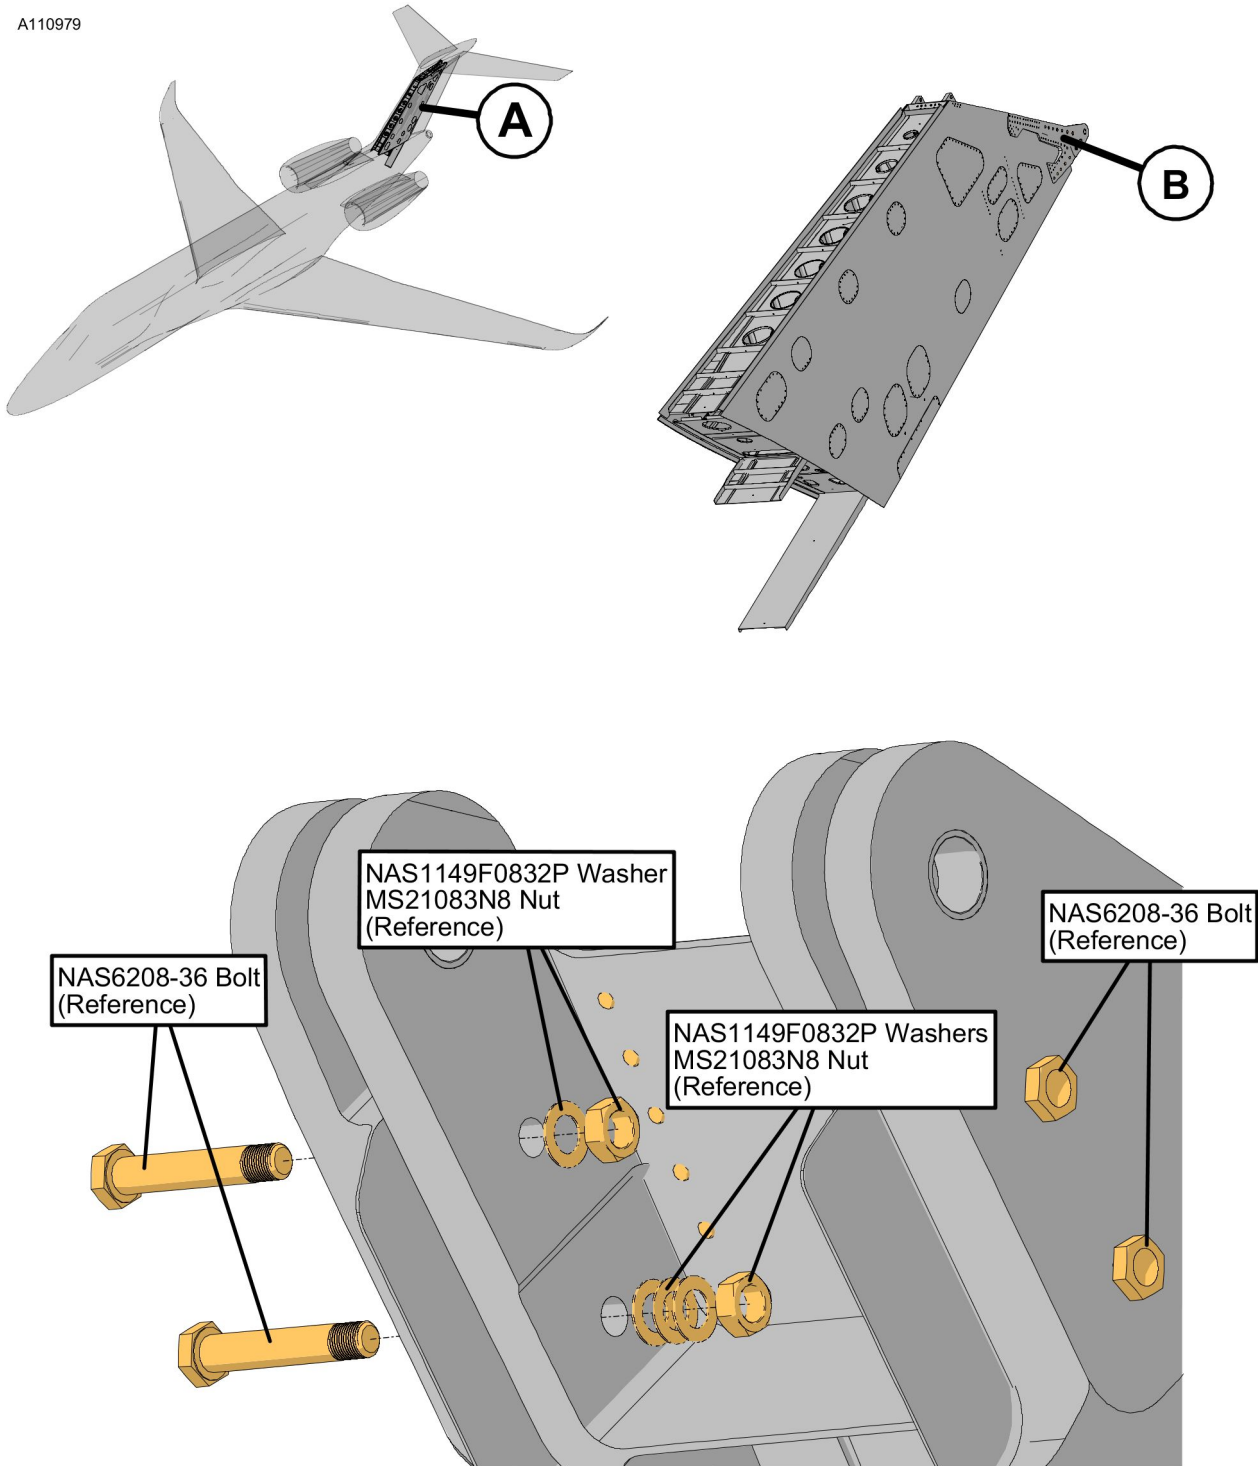

Figure 1. Inspection of the Vertical Stabilizer Side Plate Bolts (Sheet 1)
3. (Refer to Figure 1, Detail A.) Do a visual inspection of the left and right vertical stabilizer side panel assembly attach bolts as follows: